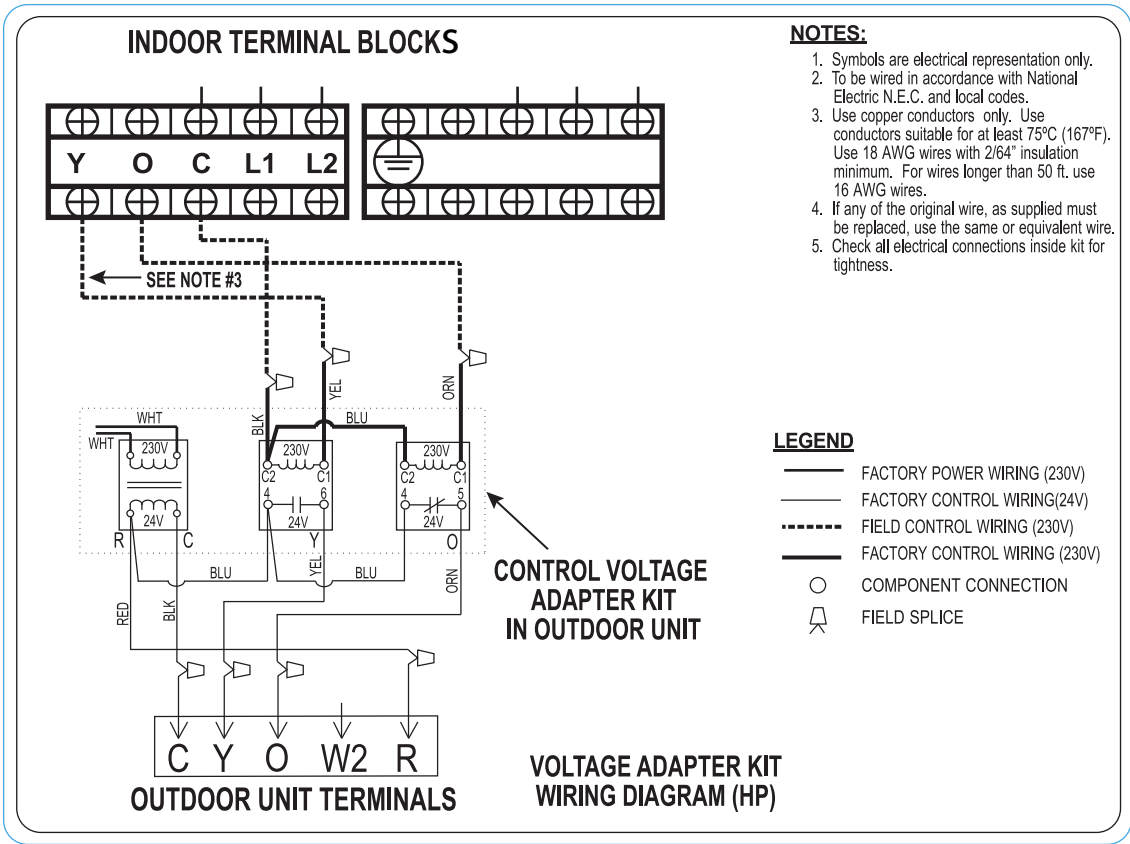

Fig. 7- Connection Diagram for KHAVC0101AAA Control Voltage Adapter Kit
3. After running the 230V field wire to the outdoor unit, connect the high voltage wires from the kit (INDOOR C, O, Y) as shown in Fig. 7.